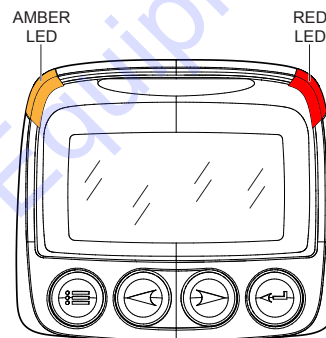

Figure 18. Indicator Lights
3. Turn the ignition key clockwise to the **ON** position. The system lamps and fans, including the red and amber LEDs (Figure 18), will turn on briefly to verify functions.